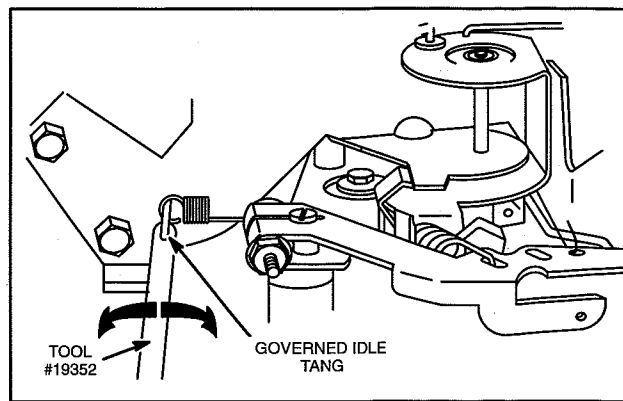

Fig. 134 – Adjust Governed Idle
8. If necessary, use tang bending Tool, #19352, and bend governed idle tang, Fig. 134 to obtain RPM shown: